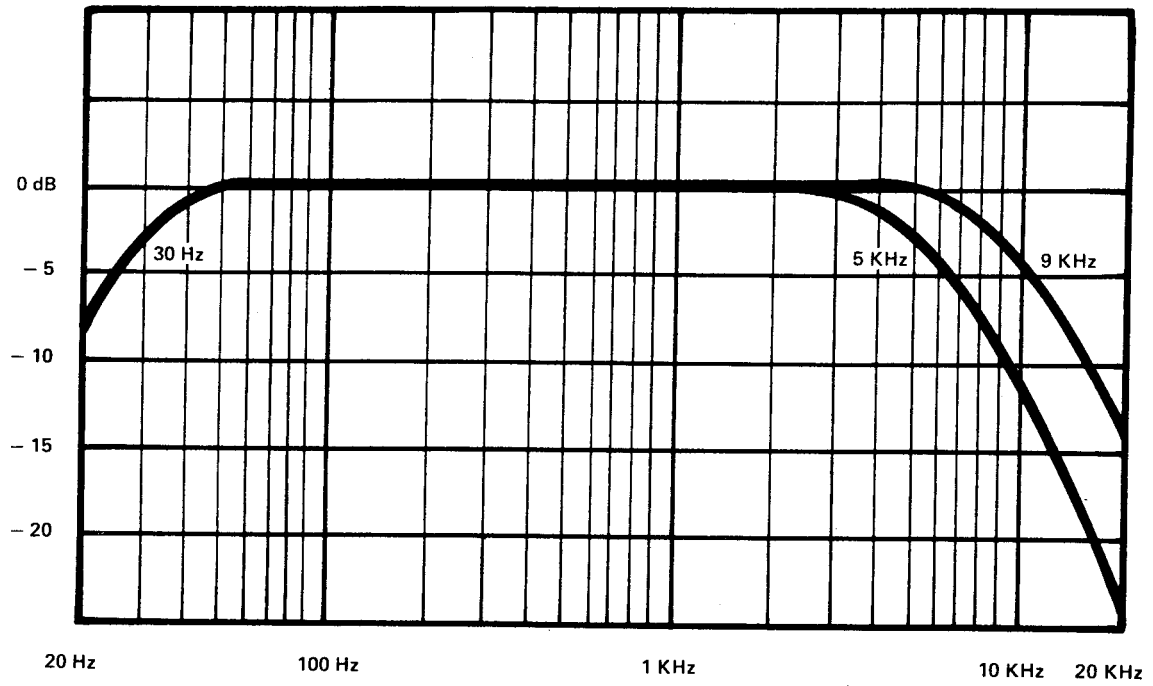

Figure 2-4 Active Filter Network Characteristics
- (1) Connect oscillator to left channel AUX INPUT Jack. Insert a shorting plug into right channel AUX INPUT Jack. Monitor signal at PREAMP OUTPUT Jack with AC VTVM.
- (2) Set oscillator frequency to 20 Hz. Set oscillator level for 0 dB, 3 V rms output as indicated on the VTVM.
- (3) Observe the output of the undriven channel on the VTVM. Output should be at least 40 dB below the 0 dB reference level indicating a 40 dB left - to - right channel separation.
- (4) Repeat test on right channel.
K. FILTERS (Figure 2-4)
- (1) Connect oscillator to AUX INPUT Jack. Depress AUX Selector Pushswitch. Connect AC VTVM to PREAMP OUTPUT Jack.
- (2) To establish a reference level, set oscillator frequency to 1 kHz, 0 dB as measured on the VTVM.
- (3) Depress 9 kHz FILTER Switch. With oscillator switched to 9 kHz input, output level should drop 3 dB (\pm 1.25 dB). Depress and release FILTER switch.
- (4) Depress 5 kHz FILTER Switch. With oscillator switched to 5 kHz, output should drop 3 dB (\pm 1.25 dB). Depress and release FILTER Switch.
- (5) Depress 30 Hz FILTER Switch. With oscillator switch set to 30 Hz, signal should drop 3 dB (\pm 0.75 dB). Depress and release FILTER Switch.